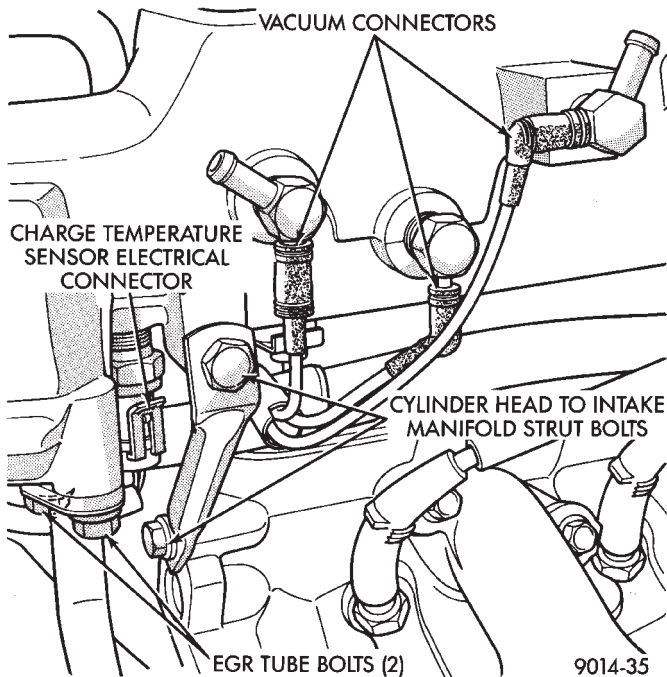

Fig. 5 Electrical and Vacuum Connections To Intake Manifold
(7) Remove PCV and brake booster hoses from air intake plenum (Fig. 5).
(8) Remove EGR tube flange from intake plenum (Fig. 5).
(9) Disconnect Charge Temperature Sensor electrical connector. Remove vacuum harness connectors from Intake Plenum (Fig. 5).
(10) Remove cylinder head to intake plenum strut (Fig. 5).